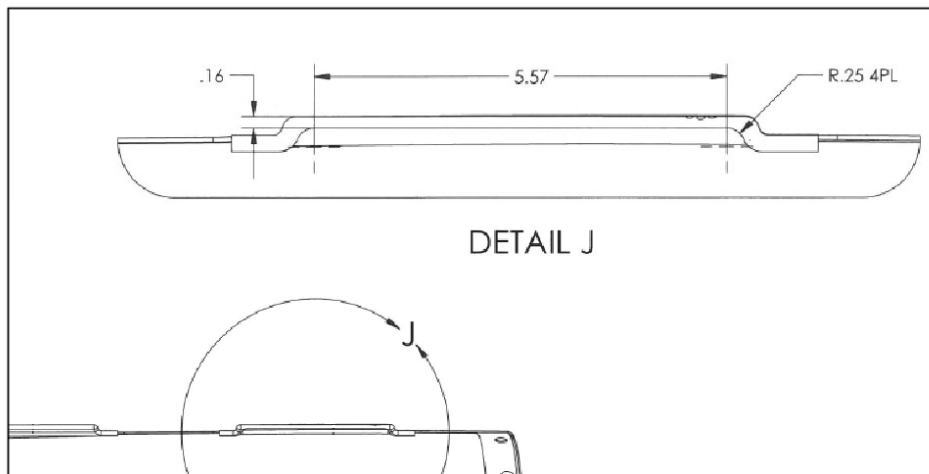

Figure 11: Reference Dimensions (LH shown, RH opposite)
6. Inspect the cutout using the marking template and reference dimensions given in Figure 11.